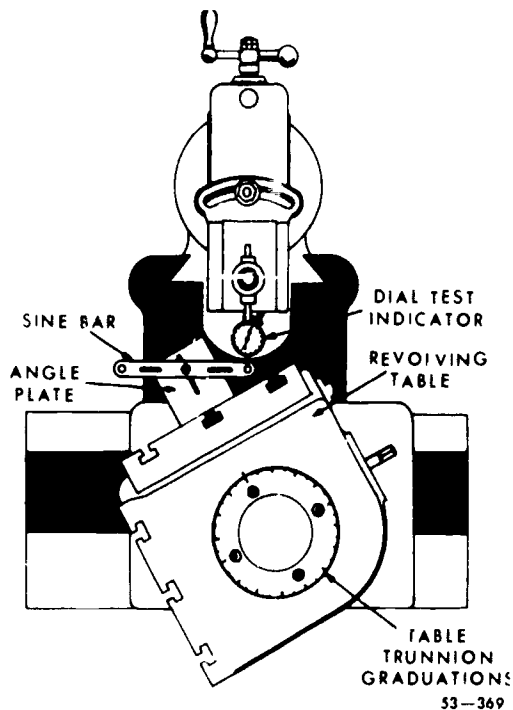

Figure 2-28. Aligning table with a sine bar
**Swiveling the table.** You can position the work at the angle you want by swiveling the table on the trunnion or by tilting the tilting tabletop. Use the graduations on the table for average accuracy, or a sine bar, as shown in figure 2-28, for extreme accuracy. Set up the tool and feed the work in the same manner that you use to machine a horizontal surface.